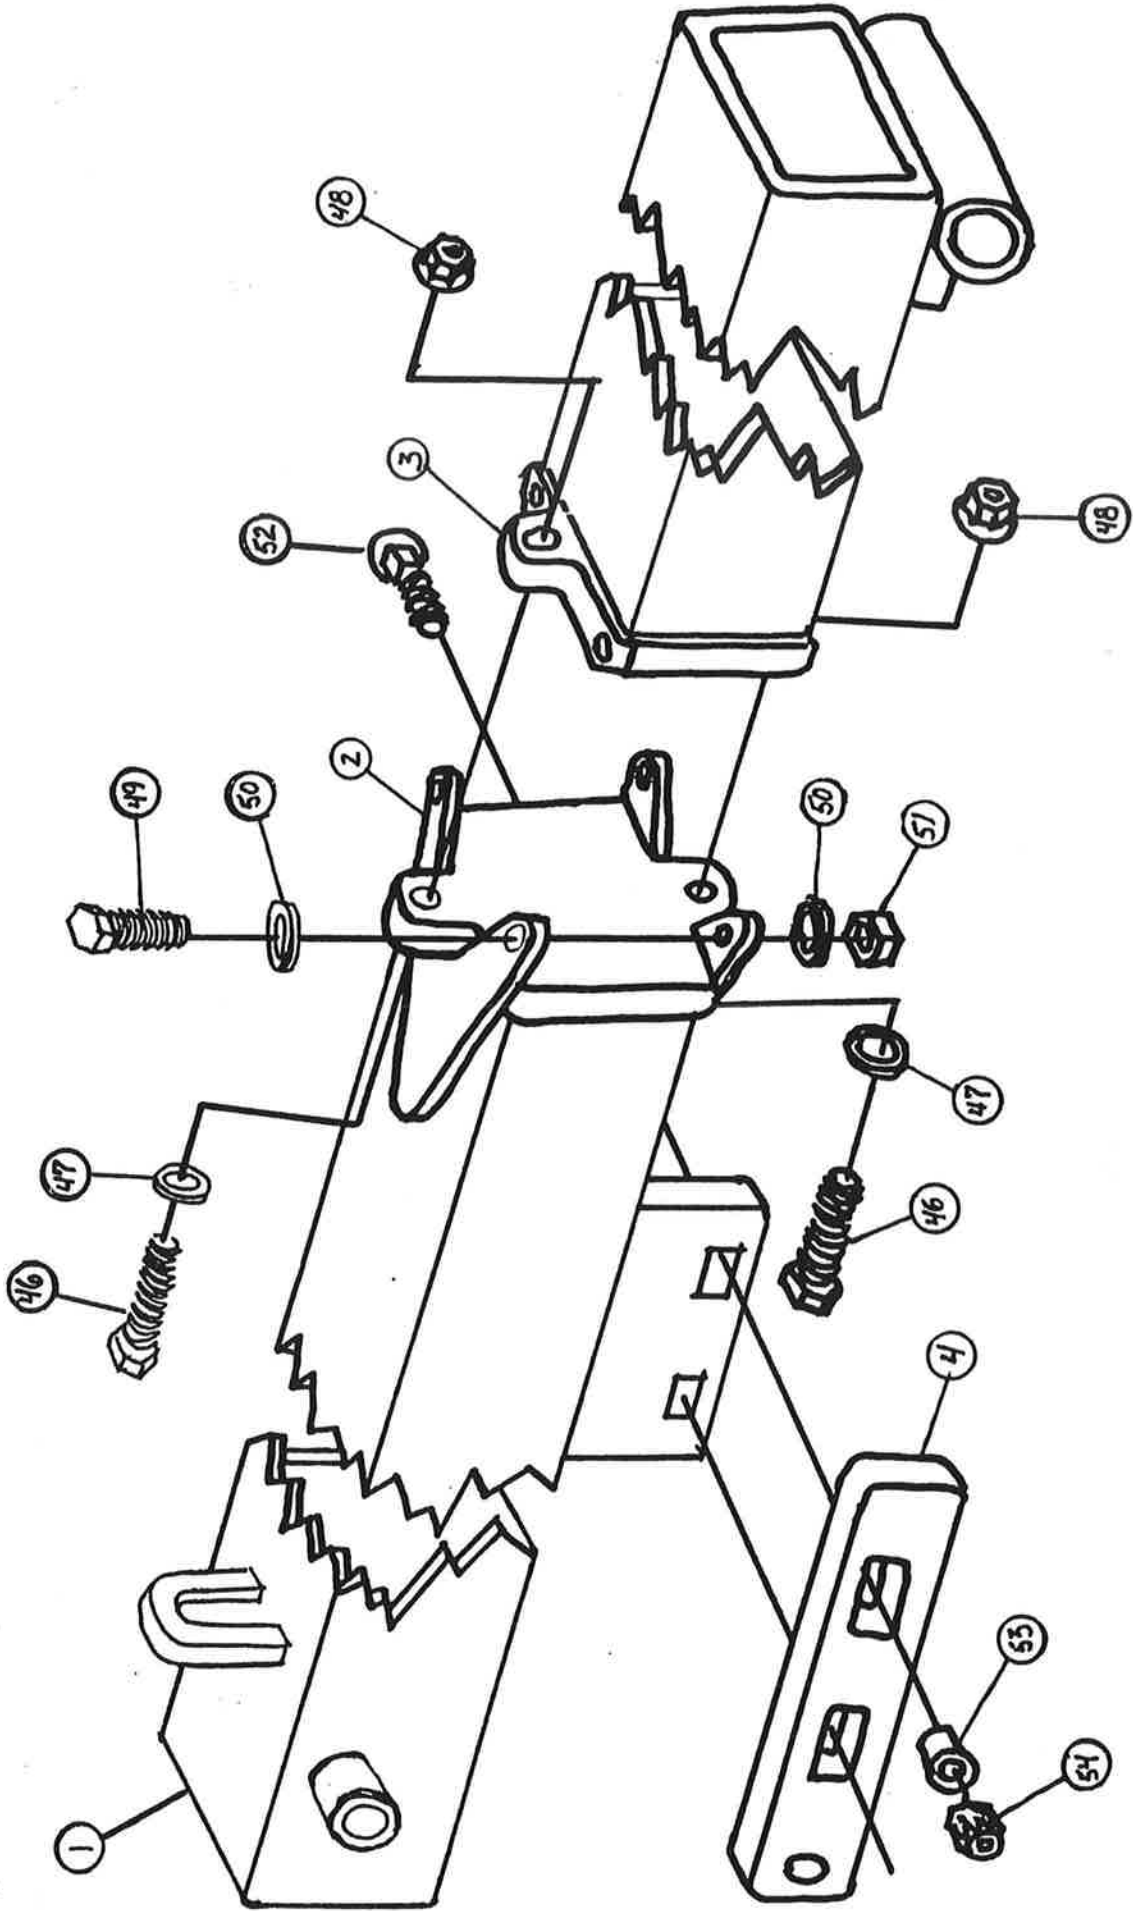

FIGURE 1
Step 8 Attach Inner Arm Assembly (1) , as shown in figure 1, and spring attachment point to Mount Weldment (24 & 25) by inserting 8" long pin (26) as shown in figure 4 with grease zerk to rear. Tap shaft in place with soft